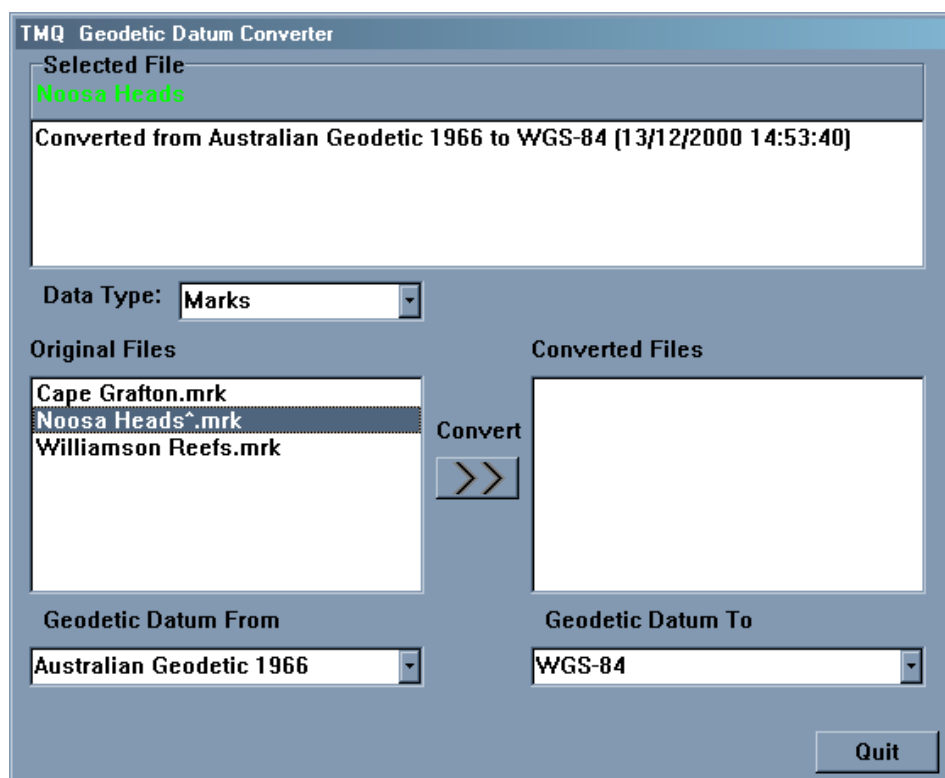

Figure 4.9
*Whenever a file is converted a '^' symbol is appended to the filename. The details of the conversions that have been performed on such a file can be viewed in the 'Selected File' section of the converter dialog box, when the file is selected (see figure 4.9).*